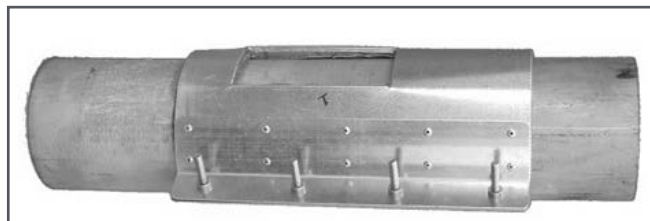

Figure 43: Installation of a PDJ Jacket
3. Install the jacket on the pipe as shown in Figure 43. Tighten the clamping screws so that some fluid drips from the bottom of the jacket.